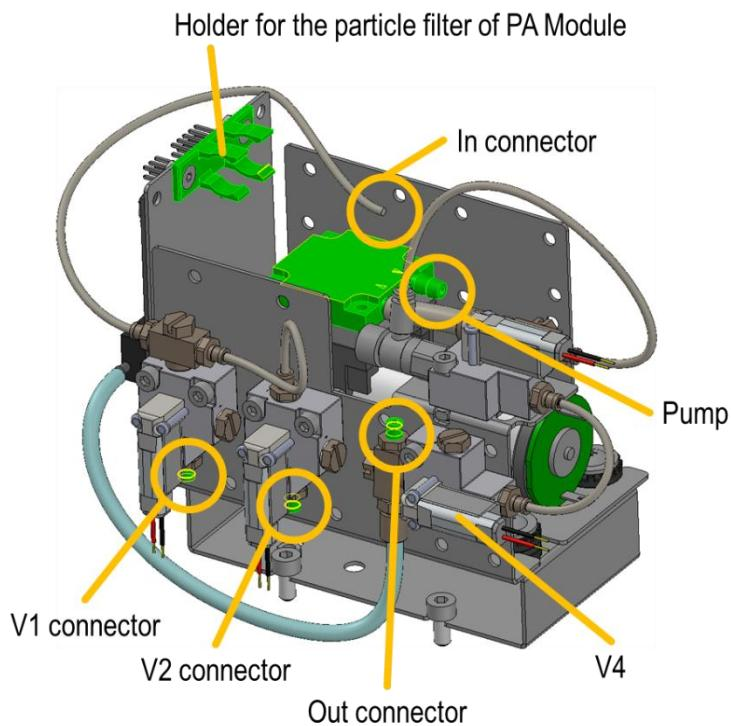

Figure 43. Gas tube connections for the Gas Management Unit.
4. Disconnect gas tubes, see Figure 43: